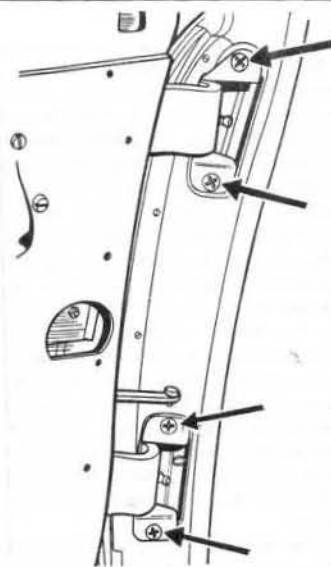

Fig.12.3. The screws securing the front door hinges
- 9 Remove the hinges (Fig.12.3) by taking out the cross headed screws and the bolts inside the hinge recess.